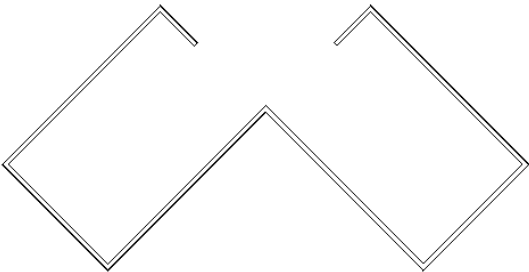

Figure 3-45 The sketched inclined wall exterior profile
9. Now, create the next two wall segments of 60'0" and 14'0" length to complete the inclined wall exterior profile, as given in the sketch plan and shown in Figure 3-45.